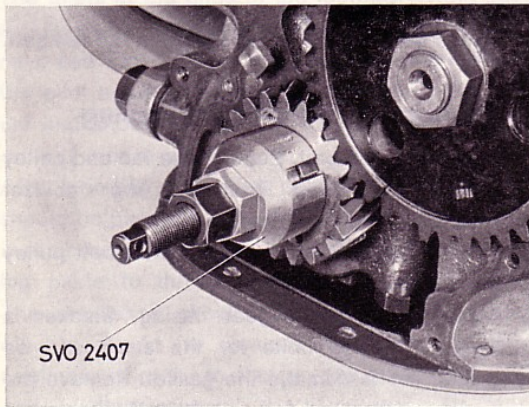

Fig. 47 Fitting the crankshaft gear
6. Fit the crankshaft gear by using tool SVO 2407 and the camshaft gear by using SVO 2408, see Figs. 47 and 48. Fit the hub on the crankshaft. Do not push the camshaft backwards so that the seal washer on the rear end loosens. Check to make sure that the gears are correctly located in relation to one another, see 49. Tool SVO 2407 has a spanner grip intended for turning the crankshaft.